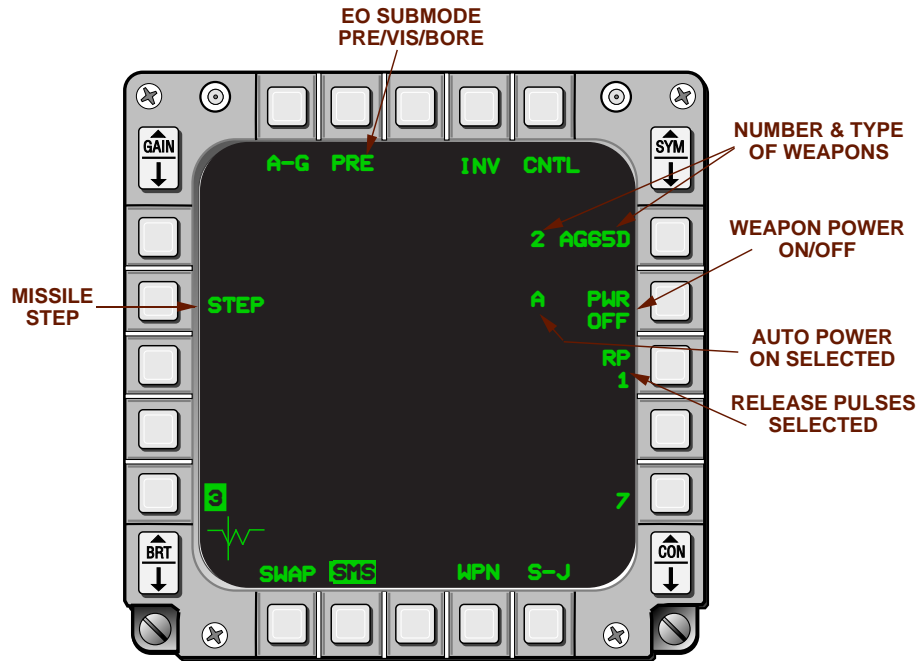
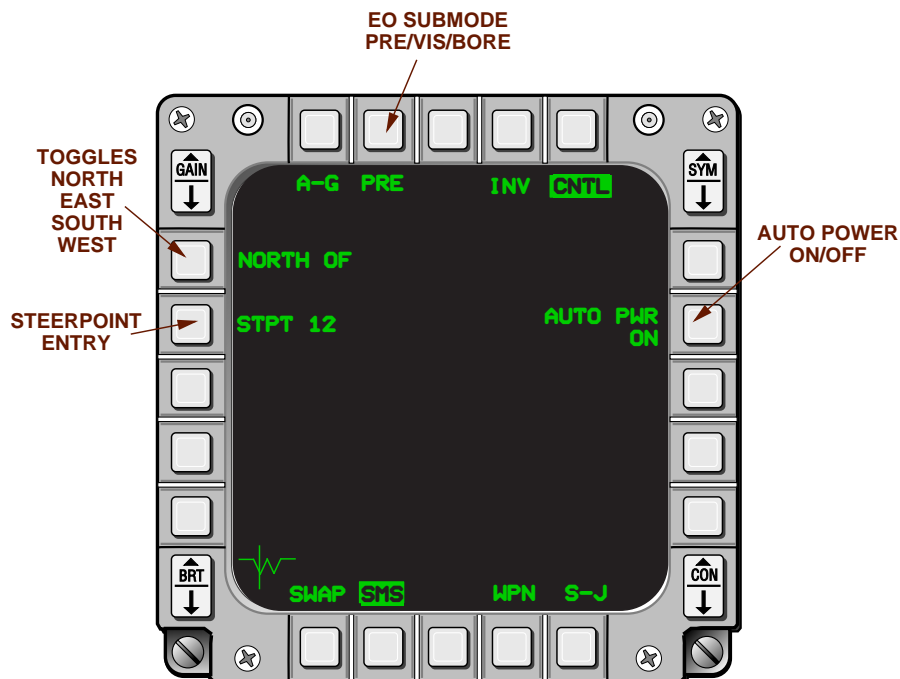

Figure 6-22 AGM-65 SMS Page
Figure 6-23 E-O SMS Control Page
**AGM-65 Control.** Status and control of the AGM-65 missile is displayed and managed on the A-G SMS page (Figure 6-22) and the A-G SMS CNTL page (Figure 6-23).